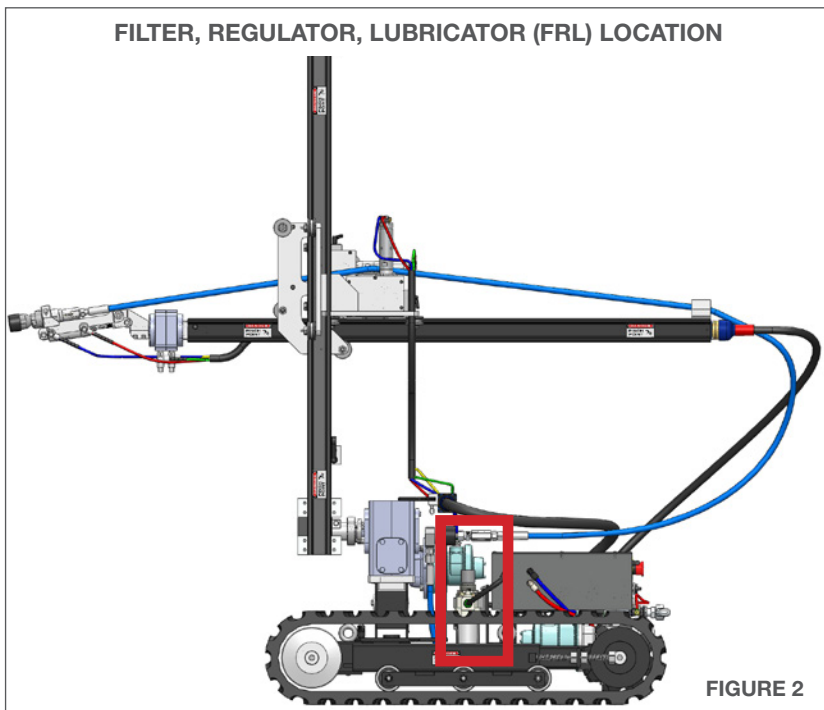

FIGURE 2
- Slide the Rail Stop onto the end of the Horizontal Rail Assembly. **(Figure 2)** Orient and tighten the Release Lever away from the Carriage Assembly. **(Figure 2.1)**